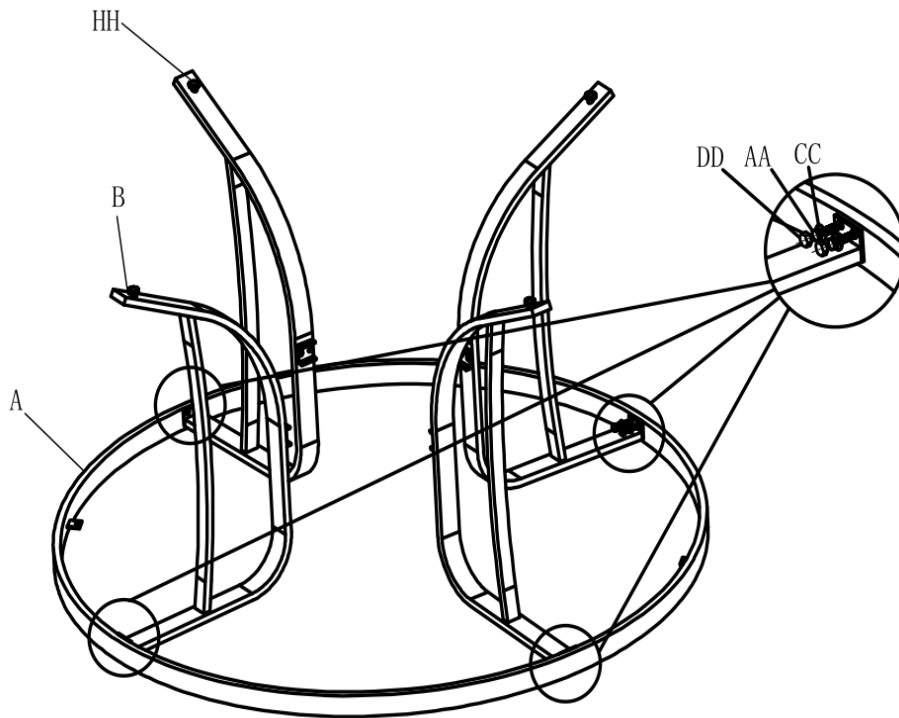

Figure 1
Step 1. Carefully place the table top frame (A) upside down on a non-abrasive surface.
Step 2. Assemble the table legs (B) to the table top (A) with bolts (AA) and washer (CC) as shown in figure 1.